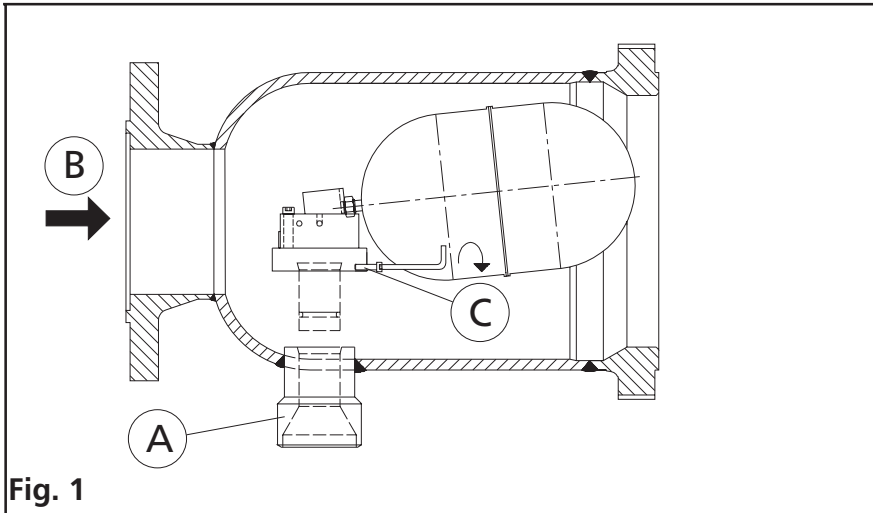

Fig. 1
Mount the float valve horizontally with the outlet branch pos. A (fig. 1) vertically down-wards.
The flow direction has to be from the flanged inlet as indicated with the arrow pos. B (fig. 1)
- Unscrew the screw pos. C (fig. 1) and lift up the float assembly from the outlet.
NB! When demand is heavy at low temperature operation, we recommend to check the velocity in the outlet branch. If necessary the diameter of the pipe which is welded on to the outlet branch pos. A (fig. 1) can be increased.
Installer svømmerventilen i vandret position med afgangsrøret pos. A (fig. 1) lodret nedad.
- Løs skruen pos. C (fig. 1) og løft flyder mekanismen op af afgangsrøret.
OBS! Når stor kapacitet kræves ved lav temperatur, anbefaler vi, at hastigheden i afgangsrøret kontrolleres. Om nødvendigt kan diameteren på røret, der svejdes på svømmerventilensafgangsrør pos. A. (fig. 1), øges.